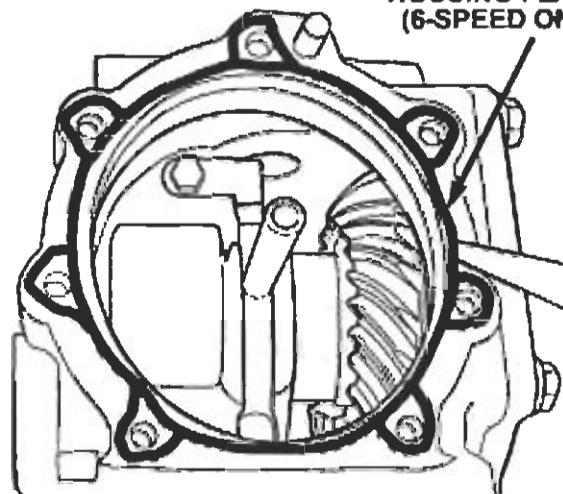

Figure 22
46. **FOR 6-SPEED TRANSFER CASES ONLY:** Put a bead of sealant (Mopar Axle RTV P/N 05013477AA or equivalent) on the gear housing flange (Figure 22).